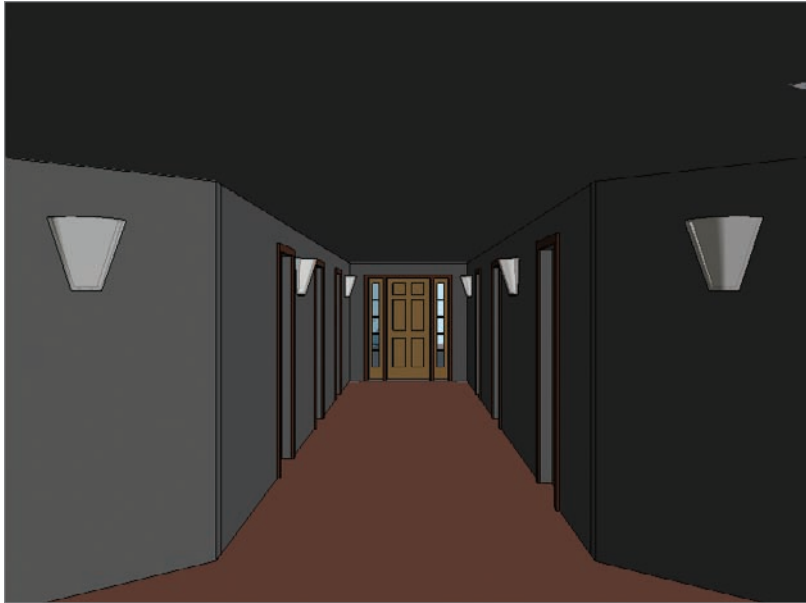

FIGURE 9.51 Looking at the hallway in a perspective view
7. In the Project Browser, double-click on the 3D view called East Wing Corridor Perspective. This will give you a good idea of how the up-lighting influences the corridor (see Figure 9.51).